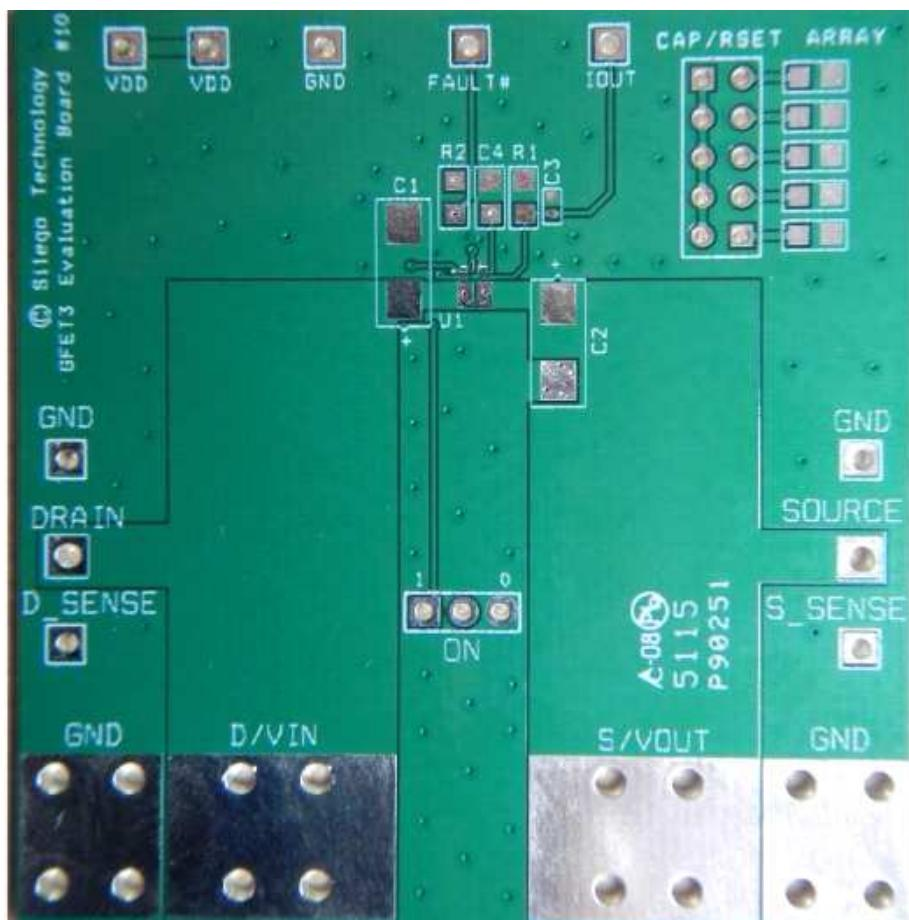

Figure 4. SLG59M1709V Evaluation Board.
2. Since the VIN and VOUT pins dissipate most of the heat generated during high-load current operation, it is highly recommended to make power traces as short, direct, and wide as possible. A good practice is to make power traces with an absolute minimum widths of 15 mils (0.381 mm) per Ampere. A representative layout, shown in Figure 4, illustrates proper techniques for heat to transfer as efficiently as possible out of the device;
A GreenFET Evaluation Board for SLG59M1709V is designed according to the statements above and is illustrated on Figure 4. Please note that evaluation board has D_Sense and S_Sense pads. They cannot carry high currents and dedicated only for RDS_{ON} evaluation.